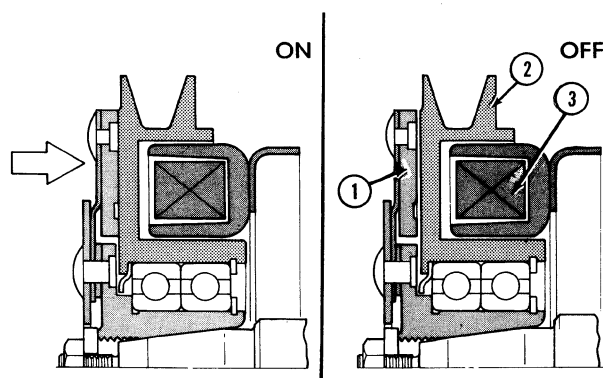

Figure 14
Operation of the magnetic clutch is shown in Figure 14. Current is supplied the field coil (3), locking the drive shaft to the magnetic clutch drive pulley (2). When current is turned off the magnetic clutch drive pulley stops while the armature plate (1) continues to turn. Current is provided by a switch on the instrument panel.